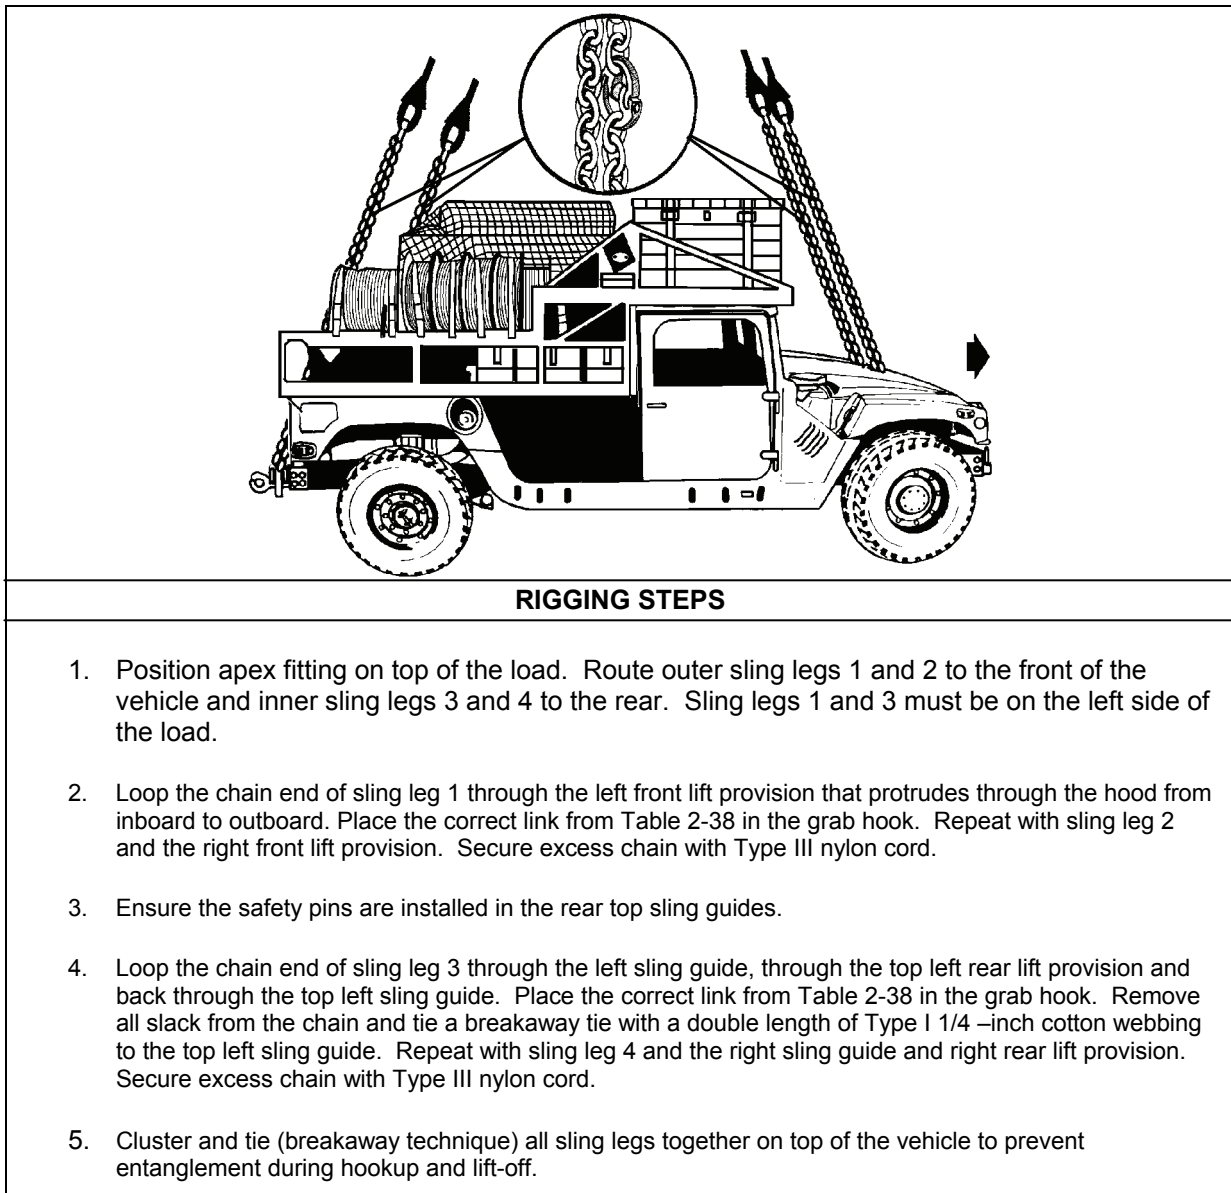

Figure 2-37. M1113 with Tactical Super High Frequency Satellite Terminal Mobile Power Unit
- **Rigging.** Rig the load according to the steps in Figure 2-37.